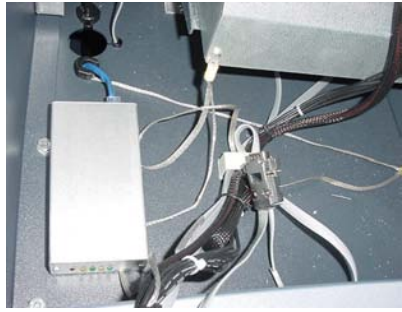

Figure 2-5
7. Connect the 10Base-T connector to the back of the External Ethernet assembly device (Figure 2-5). Locate the RS-232 I/F Host cable. Connect the 9-Pin connector end to the back of the External Ethernet assembly (depending on connector end, you may need a small flat or phillips screwdriver to secure). Place the Ethernet device in front of the grommet holding the 10Base-T cable (Figure 2-6).